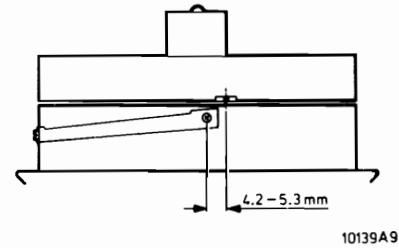

Fig. III-1
- Adjust R9 of U219 in a way that, measured in rotation direction of the head disc, the distance between the mounting screw and the gap of the video heads is 4,2-5,3 mm (see Fig. III-1).